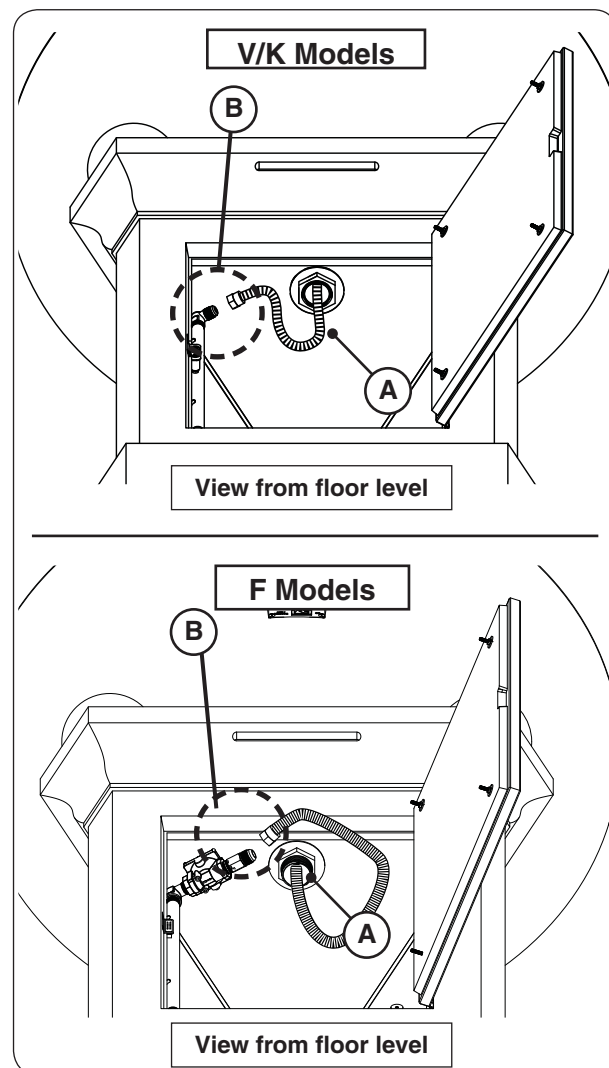

Fig. 29-1 Route flex & connect to pipe fitting
1. From above the fire bowl, route the flex connector (marked **IN**) that is coming off the valve assembly down through the center opening of the fire bowl (see Fig. 29-1, A).
3. From within the pedestal, connect the flex connector to the adapter/regulator found on the pipe extension (that is mounted to the interior wall of the pedestal). Tighten securely. See Fig. 29-1, B.